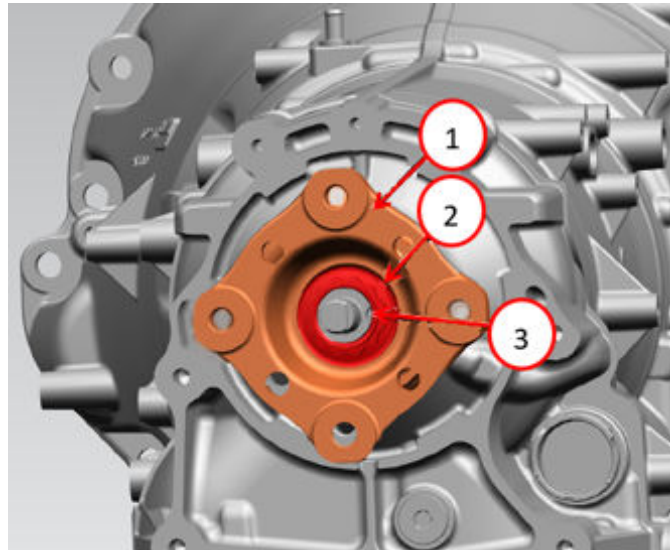

Fig. 54
82. For 2WD vehicles, install the output shaft flange Fig. 54.